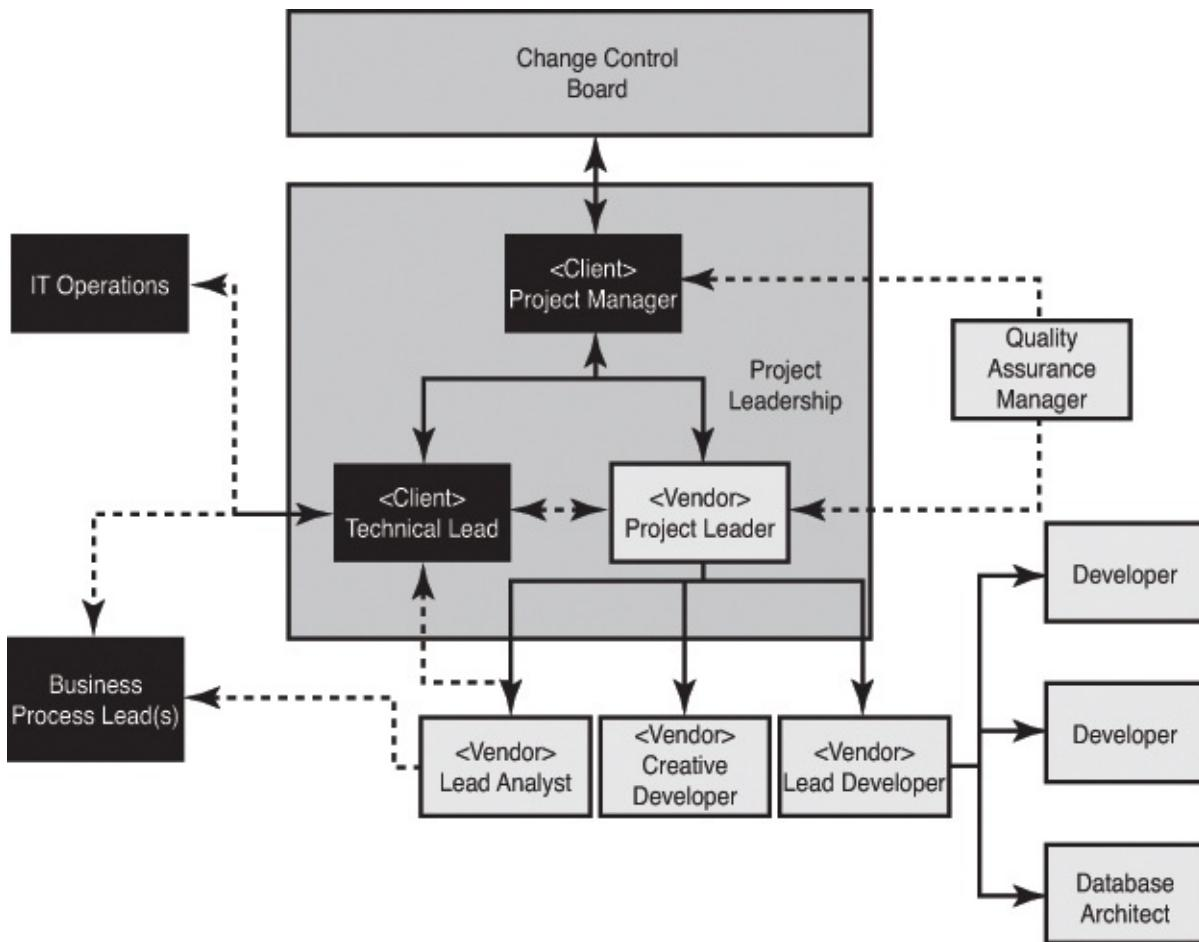

Figure 5.6. A project organization chart for an outsourced software development initiative.
- **Update project organization**—Also previously mentioned in the project definition document, this section lists all the individuals, business units, and organizations involved in the project, the role(s) each is expected to play, and an indication of how they relate to one another. A project organization chart as shown in Figure 5.6 is highly recommended here.